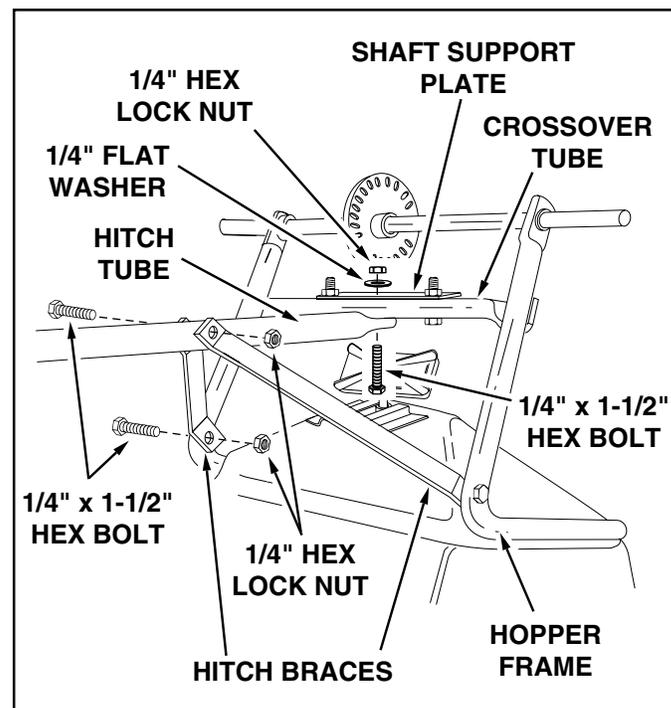

FIGURE 4
4. Assemble the two hitch braces to the inside of the hopper frame, one on each side, using two 1/4" x 1-1/2" hex bolts and two 1/4" hex lock nuts. See figure 4. **DO NOT TIGHTEN AT THIS TIME.**
6. Align the holes in the ends of the two hitch braces with the nearest hole in the hitch tube. Fasten with a 1/4" x 1-1/2" hex bolt and a 1/4" hex lock nut. See figure 4. **DO NOT TIGHTEN AT THIS TIME.**